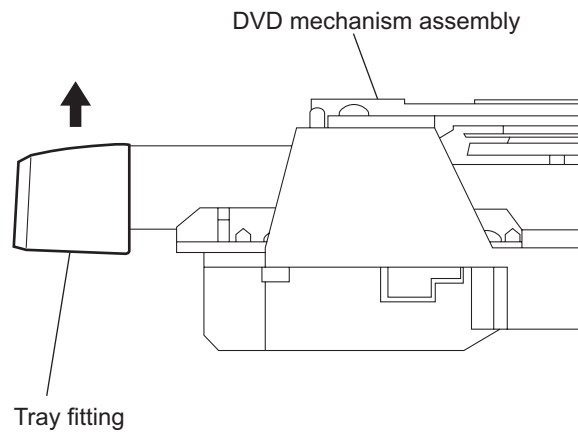

Fig.13
- (4) From the inside of the main body, take out the DVD mechanism assembly.
- (5) Remove the tray fitting from the DVD mechanism assembly in the direction of the arrow. (See Fig.13.)